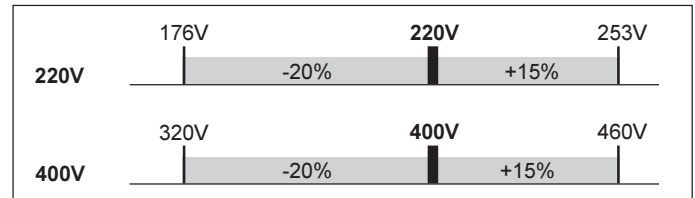

Fig. 1a Tolerance range of the mains voltage
You can run the MW 2600 / 2600CEL / 3000 (AC/DC) or TT2600 / 2600CEL / 3000 (DC) on a mains voltage of 3x400V. A special version of the MW2600 is available for 3x220V. An upstream electronic feedback control automatically "tunes" the machine to the mains voltage supplied. This voltage must lie within the voltage tolerance range shown in Fig.1a.